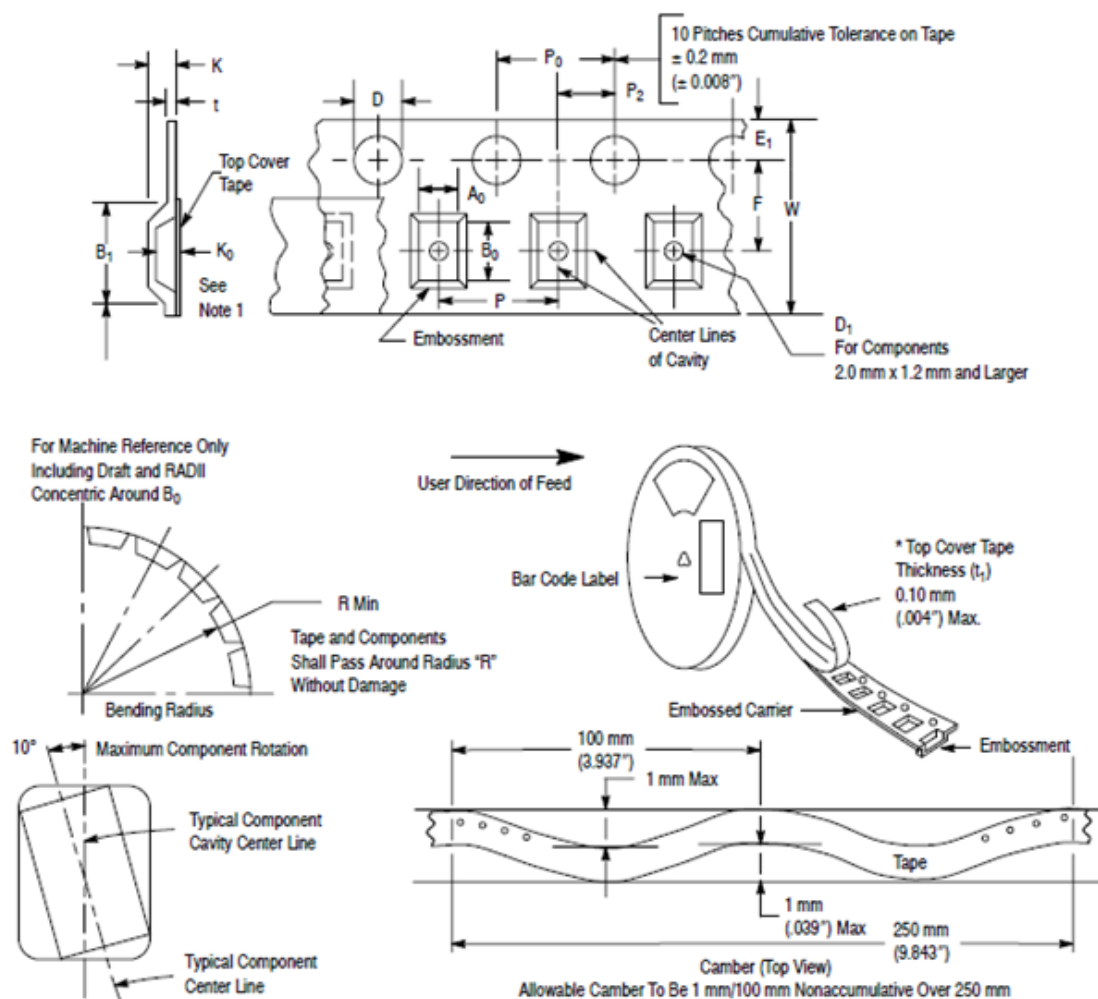

Figure 36. Tape-and-Reel Example
- Freescale complies with EIA-481D for carrier Tape-and-Reel configuration. See Figure 36.